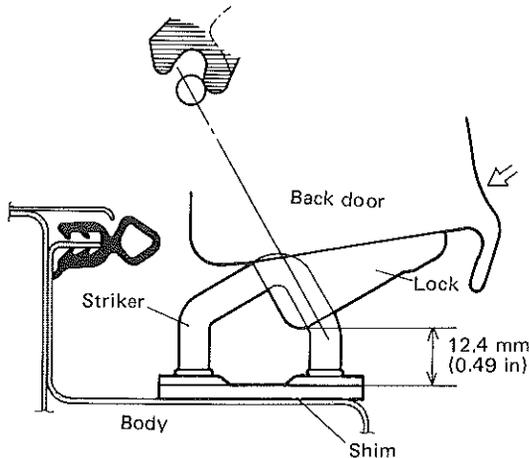

Fig. 19-25
- When the back door lock is advanced into the striker as shown in Fig. 19-25, adjust the clearance between the door lock and the striker so as to be 12.4 mm (0.49 in.) by increasing or decreasing a shim between the striker and the body.